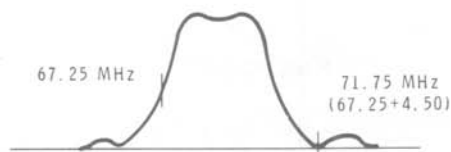

Figure 15A
- ( ) Set the SWEEP RANGE control to the RF position. The trace shown in Figure 15A should be obtained.